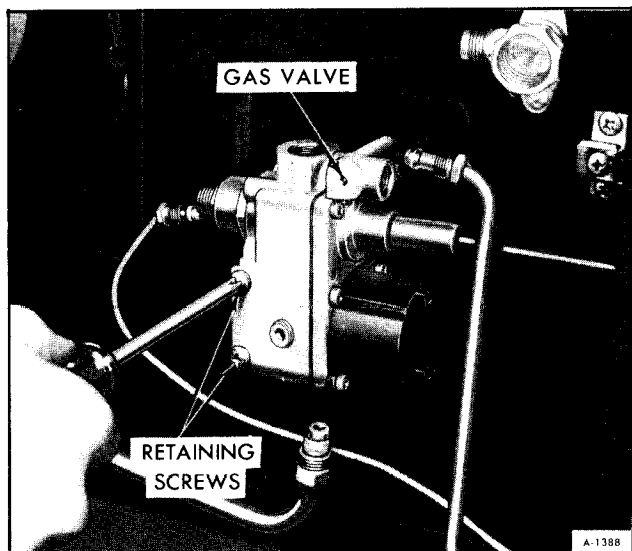

Figure 22-Removing Gas Valve
4. Remove the two screws holding gas valve to the chamber side as shown in Figure 22.
1. Secure gas valve to chamber side with two screws (figure 22) (be sure pilot reset rod is properly positioned in valve).